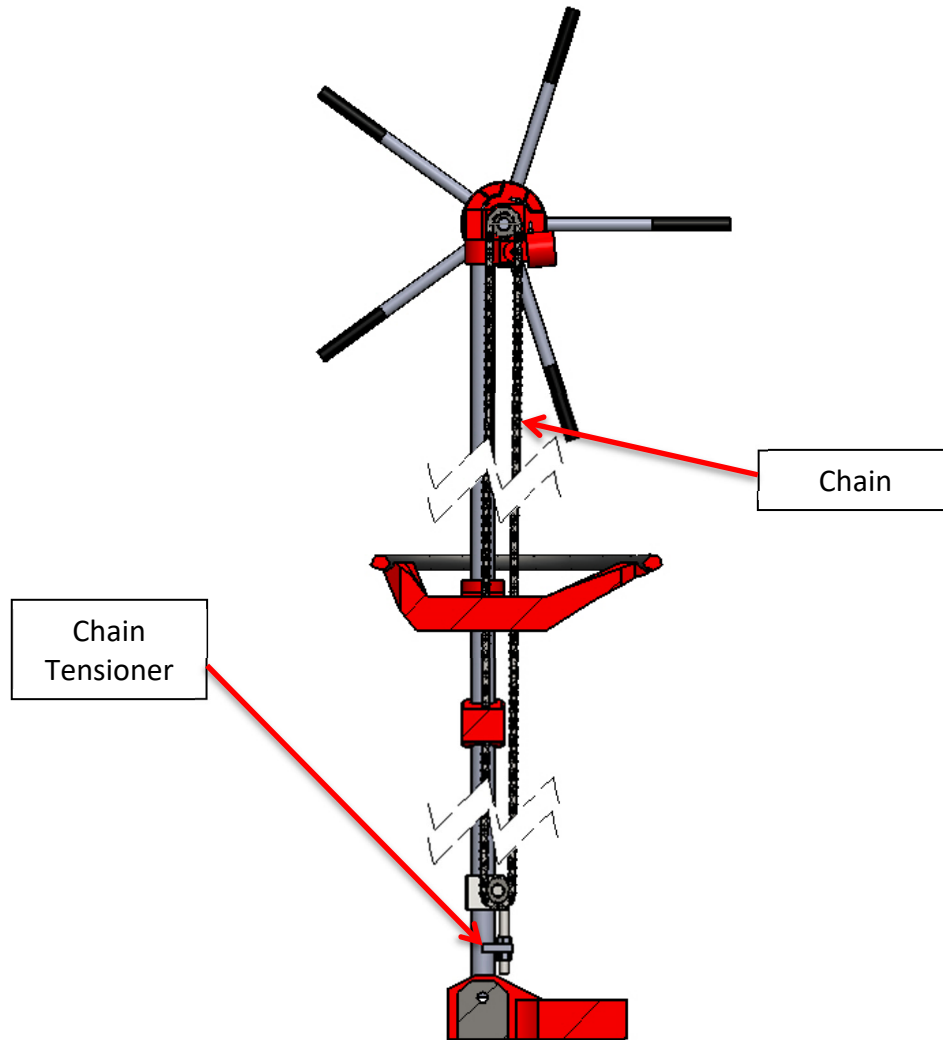

Figure 7: Section view of chain path and location of tensioner.
- 9.2.3 Follow the steps below to install and tension the powerhead roller chains. Taking care to properly equalize chain tension will allow the powerhead to travel smoothly through its stroke and ensure that the powerhead drive spindle easily connects to downhole tooling. A diagram of chains and tensioner is shown below in Figure 7.